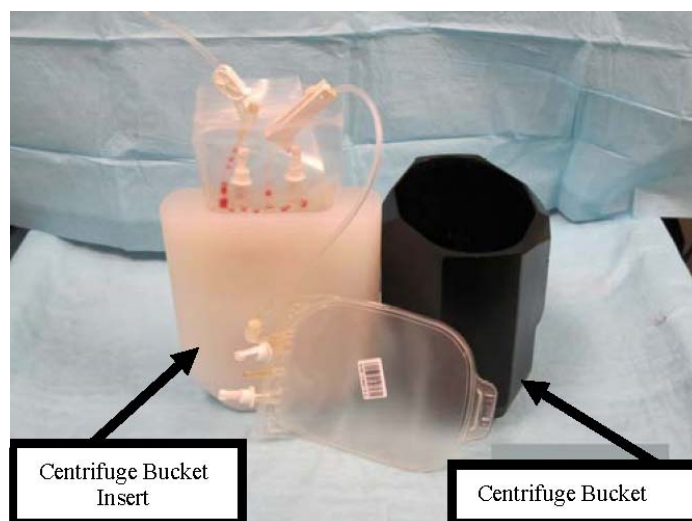

Figure 9
- d. Place the infusion bag in a specially designed centrifuge bucket insert (see Figure 9).